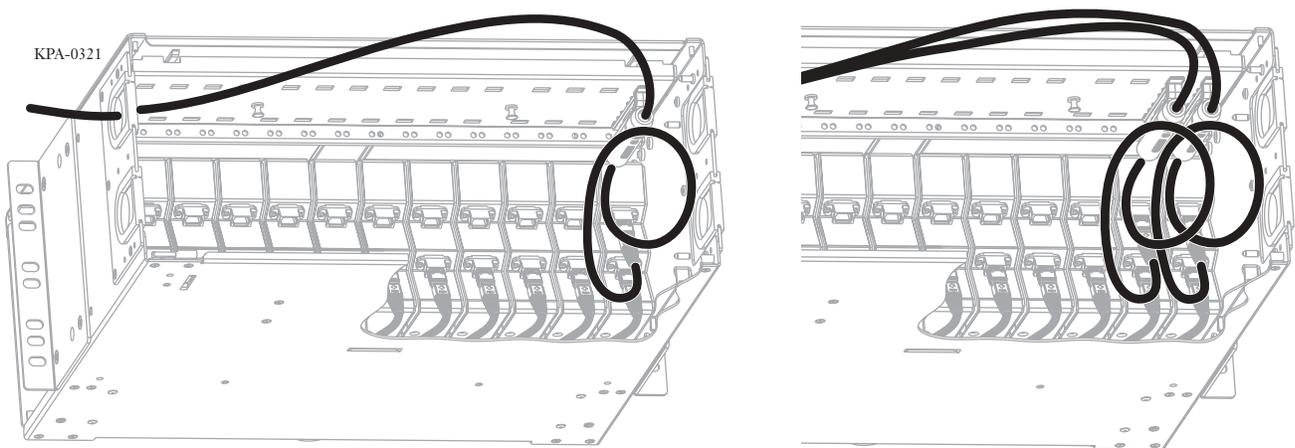

Figure 6 — Install Furcation Plugs in Ceiling Clip Plate
- Step 6** If installing the plug in the ceiling of the housing, make a vertical loop of the MTP pigtail slack (Figure 6). Insert the connector into the adapter in the first module, using the upper adapter of a 24-fiber module for the pigtails coming from the ceiling of the housing.